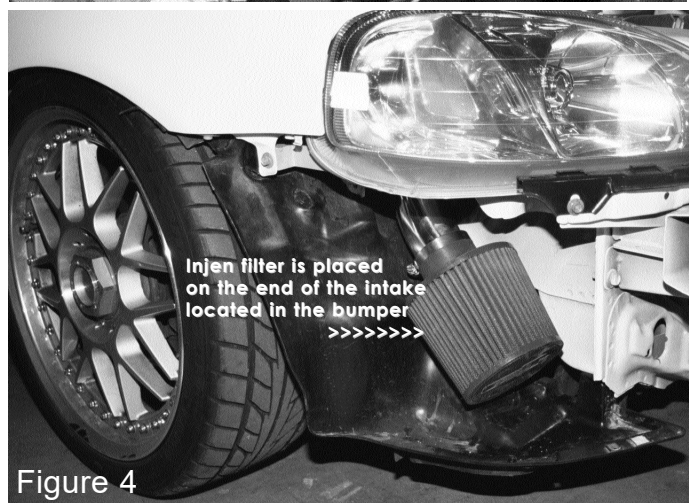

Figure 4
- 7 Place the Injen filter on the lower end of the intake in the bumper section and tighten the clamp on the filter. See fig. 4